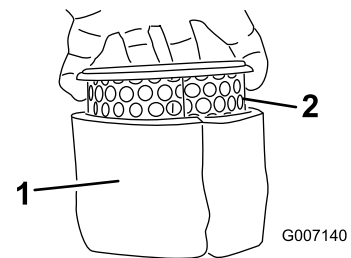

Figure 51
6. Carefully slide the foam filter off of the paper filter (Figure 51).
1. Carefully slide the foam pre-filter onto the paper filter (Figure 51).